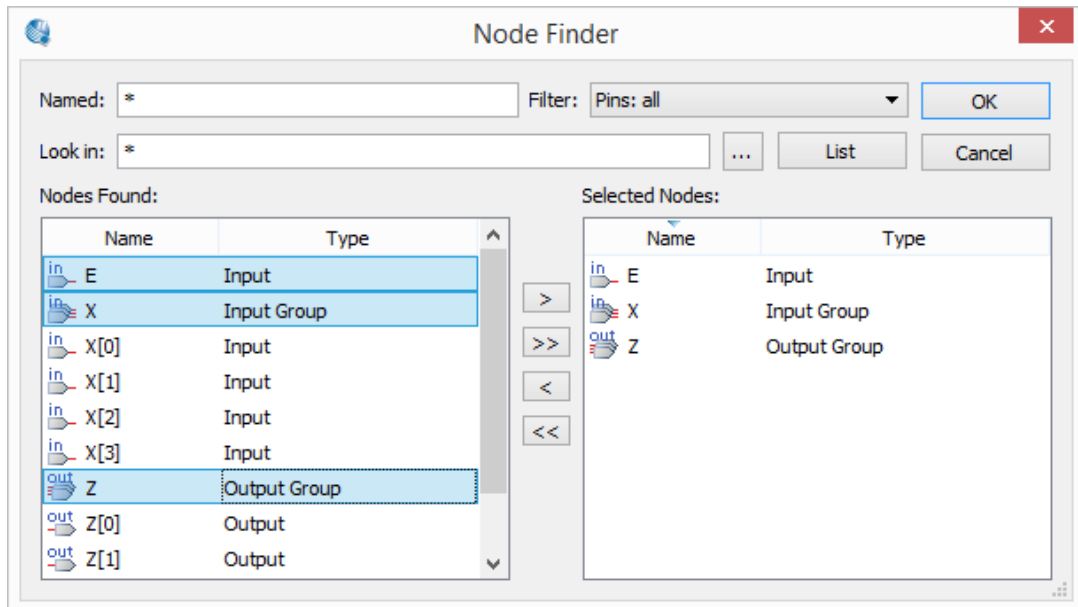

Figure 4.15 Adding busses to the functional simulation setup
34. Next, we want to include the input and output nodes of the circuit to be simulated. Click **Edit > Insert > Insert Node or Bus** to open the dialog box. Click **Node Finder**. Select **Pins:all** and click List. To add your input and output nodes easily, select the Input Group type variable instead of selecting every bit of it separately. Do this for the output bus as it's shown on Figure 4.15. Click **OK** twice.